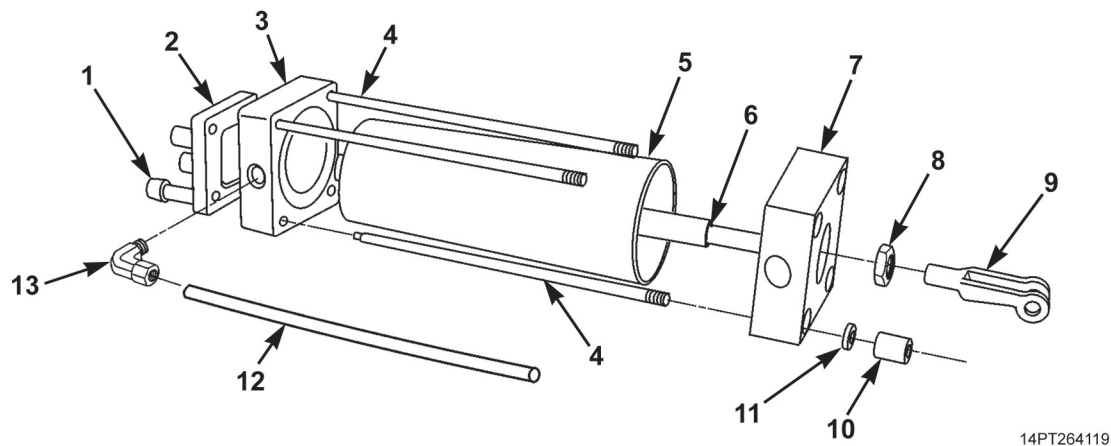

Figure 6. MCS Air Cylinder Assembly.
11. Install tie rods (Figure 6, Item 4) on top end plate (Figure 6, Item 3).
12. Position cylinder sleeve (Figure 6, Item 5) with piston on top end plate (Figure 6, Item 3).
13. Slide bottom end plate (Figure 6, Item 7) on piston shaft (Figure 6, Item 6).
14. Install four new lockwashers (Figure 6, Item 11) and four retaining nuts (Figure 6, Item 10) on tie rods (Figure 6, Item 4).
15. Install nut (Figure 6, Item 8) and clevis (Figure 6, Item 9) on piston shaft (Figure 6, Item 6) in same position as removal.
16. Install mounting bracket (Figure 6, Item 2) and four screws (Figure 6, Item 1) on top end plate (Figure 6, Item 3).
17. Install elbow (Figure 6, Item 13) on top end plate (Figure 6, Item 3).
18. Install tube (Figure 6, Item 12) on elbow (Figure 6, Item 13).